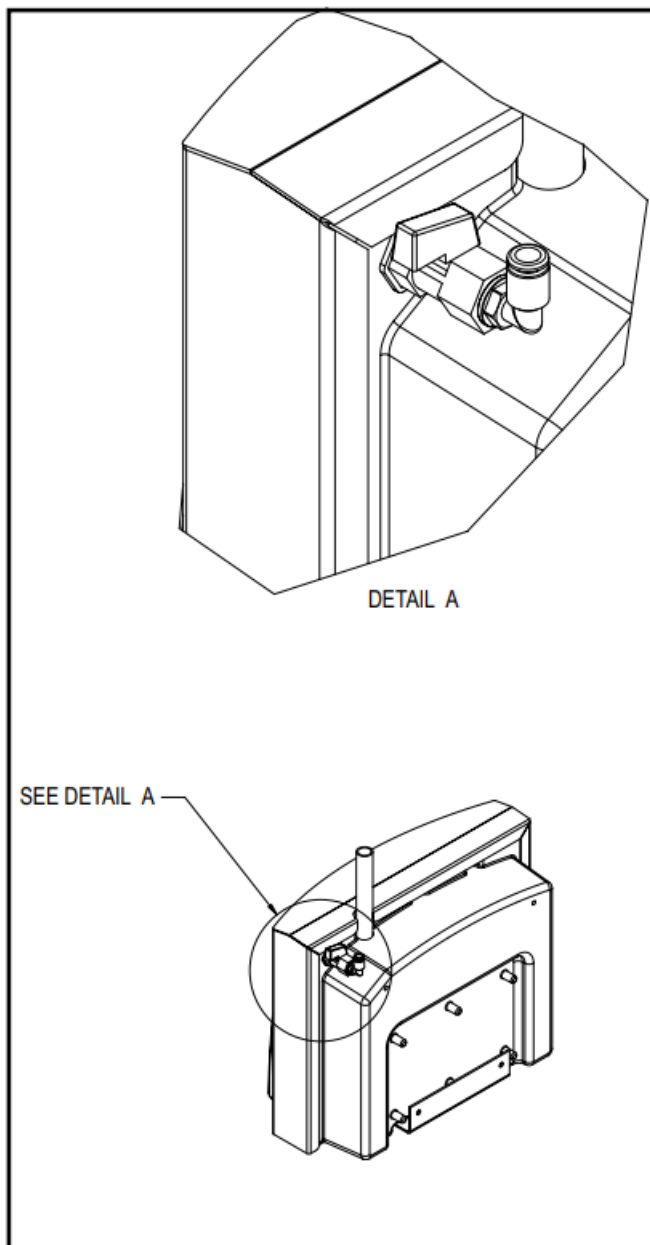

Fig. 12
1. Check that water- and air supplies for the system are open.(see A, Fig.12, air)
2. Close the air supply(A, Fig 12)